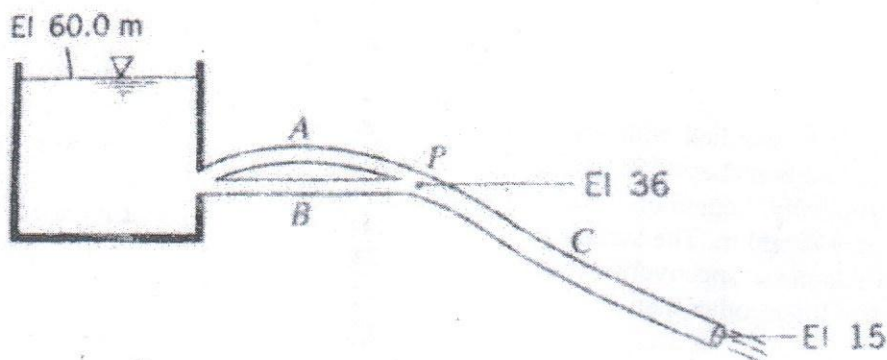

Figure 8
- 6(a) A pipeline 45 m long is connected to a water tank at one end and discharges freely into the other end. For the first 25 m of its length from the the tank, the pipe is 12 cm in diameter and then its diameter suddenly enlarges to 30 cm. The height of water level in the tank is 10 m above the center of the pipe. Considering all losses of head which occur, determine the rate of flow. Assume, $f = 0.020$ for both the pipes. (10)
- (b) Three pipes A, B and C are interconnected as shown in Figure 8. Find the rate at which water will flow in each pipe. Neglect minor losses. The pipe characteristics are as follows: (15)